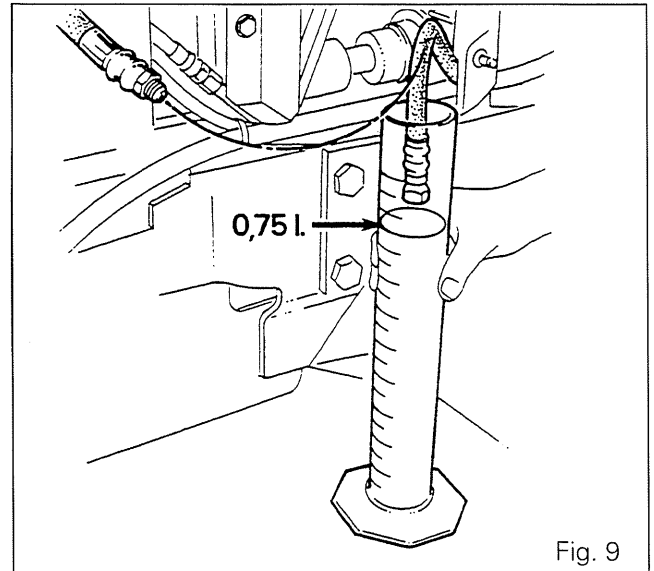
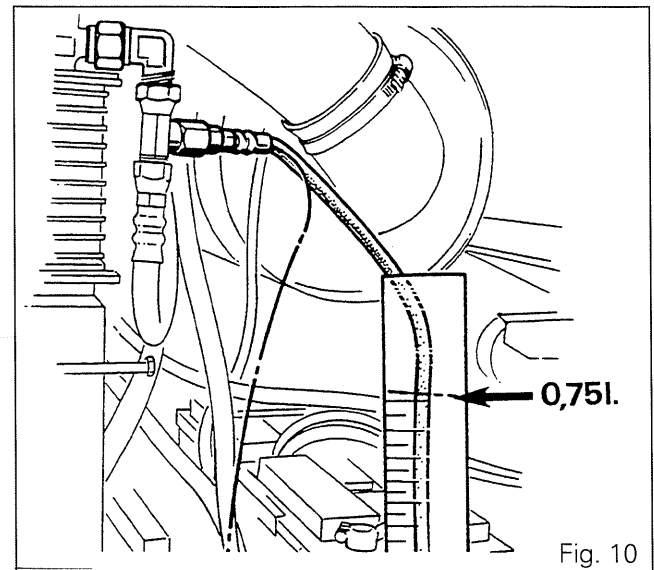

Fig. 9
Fig. 10
- Using a measuring column, check the output flow **Q7** (Fig. 9) and the inlet flow (**Q8**) after the restrictor (Fig. 10).